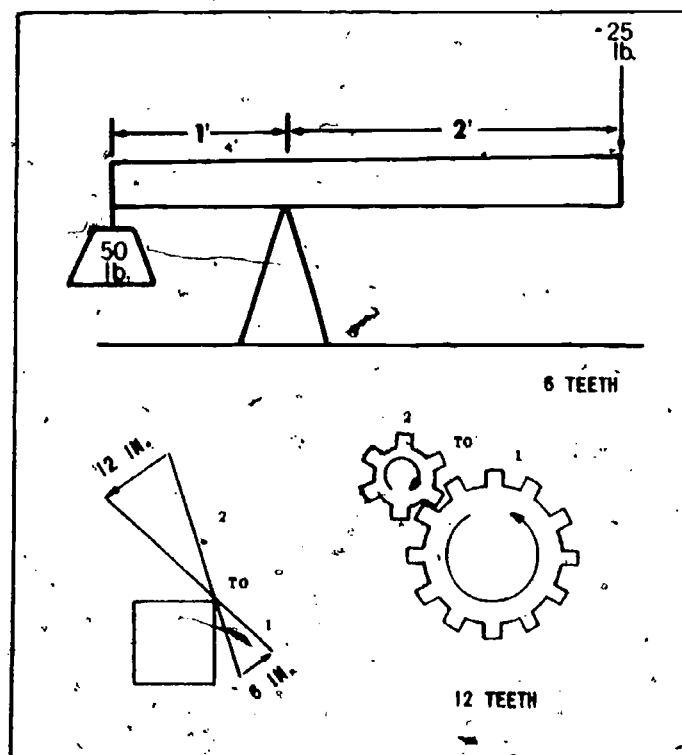

Fig 3-14. Illustration of mechanical advantage.
- (1) Purpose. Transmissions, transfers, and gears provide a method of increasing torque or speed and a method of changing rotation or direction of the power flow. An engine is designed to produce maximum power at a specific rpm and to rotate in one direction. It is through the gears of the power train that an operator can select the direction of travel and a gear ratio that will allow the engine to operate at the most efficient rpm. The component parts of a transmission or transfer are enclosed in a case.
- (2) Gear types and ratio. Gears are used to transmit rotary motion. If there is to be a change in speed, direction of rotation, or direction of power flow, the motion will be transmitted from one shaft to another. The gears are selected to fit the application and provide the desired ratio. Gears are mechanical levers; they provide mechanical advantage for rotary motion. Study figure 3-14 and note that moving the long end of the bar 12 in. will only move the short end of the bar 6 in. Also note that it will require 25 lb of pressure on the long end to move the 50-lb box. This is expressed as a ratio of 1 to 2. Now consider the gears as the bar. If you turn the large gear one full turn the small gear will turn two full turns. However, it will require twice as much effort to turn the large gear. In other words you have increased the speed, but you have reduced the torque. This ratio is also expressed as 1 to 2. If the small gear was driving, the ratio would be 2 to 1 or 12 (teeth of driven gear) to 6 (teeth of driving gear). You will also note that two gears in mesh mounted on shafts side by side will rotate in opposite directions. There are several types of gears; each can be used to provide a mechanical advantage, but some also have other functions.